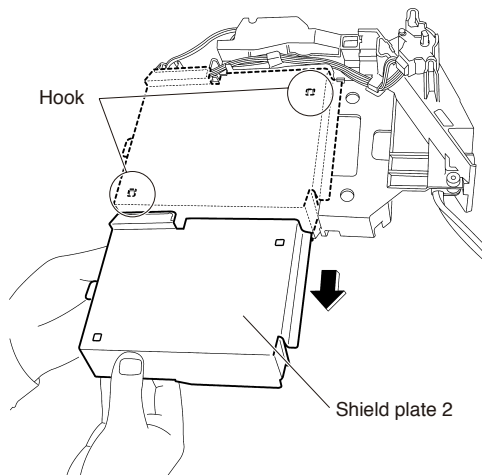

Fig. 27
(3) Lift the shield plate 2 and unfasten the 2 hooks. (Fig.27)
(4) Slide the shield plate 2 and remove it. (Fig.27)